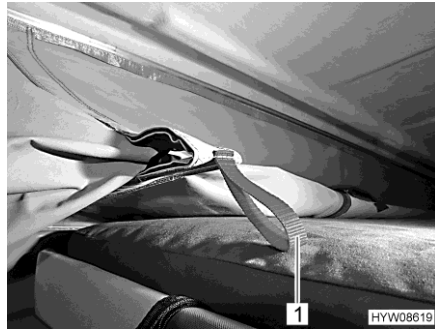

Fig. 62 Retraction device
- Pull in the canvas by the red tabs (Fig. 62,1) of the retraction device.